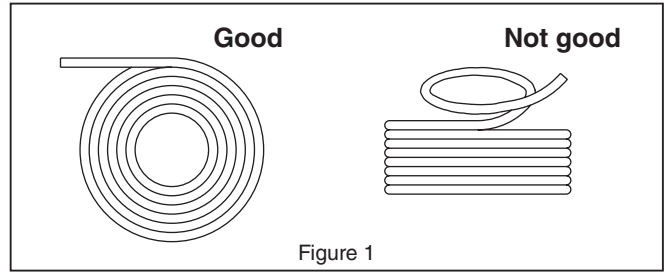

Figure 1
2. Lay out the cables/hoses in a way that does not allow twisting to occur. Do not pull cables/hoses from a drum or spiral coil as doing so will cause the cable/hose to become twisted. (See Figure 1.)